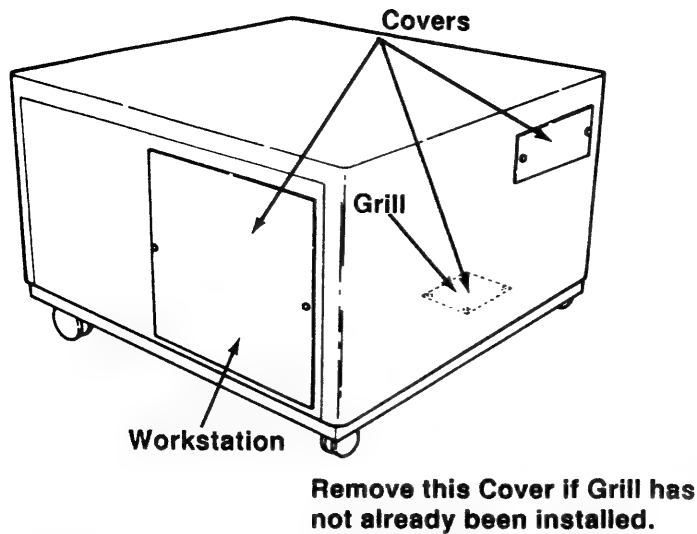

Figure 2-3.1B
4. Remove and discard eight plastic Fasteners and three Covers from the Workstation (Figure 2-3.1B).